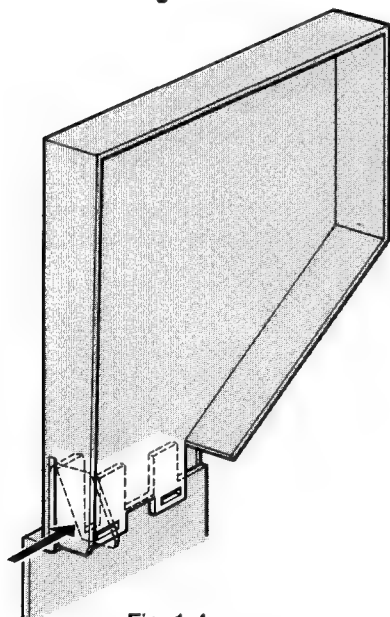

Fig. 1-4
- Fix the box in perpendicular position by bending the lug (Fig. 1-4)